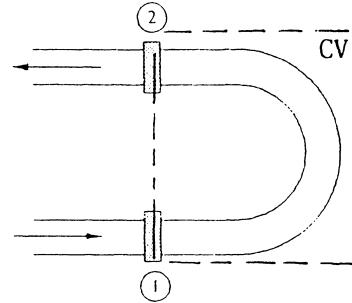

Fig. P3.43
3.43 Water at 20°C flows through a 5-cm-diameter pipe which has a 180° vertical bend, as in Fig. P3.43. The total length of pipe between flanges 1 and 2 is 75 cm. When the weight flow rate is 230 N/s, $p_1 = 165$ kPa, and $p_2 = 134$ kPa. Neglecting pipe weight, determine the total force which the flanges must withstand for this flow.